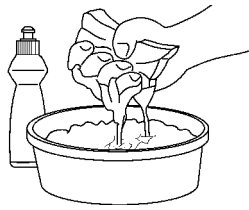

Figure 26
3. Wash the air filter in laundry detergent or kerosene (Fig. 26).